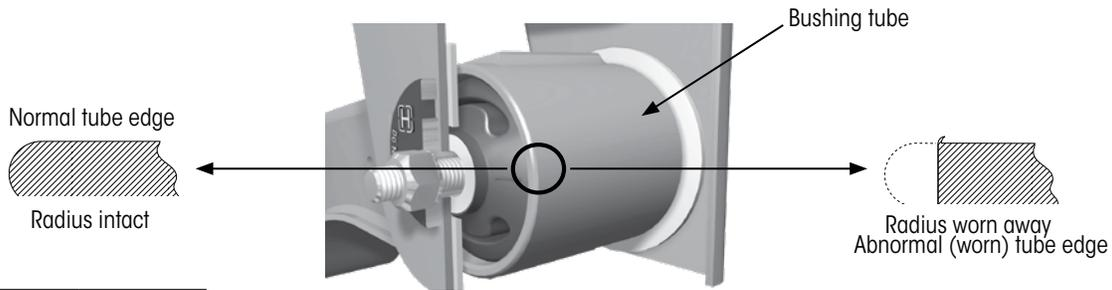

Figure 9: Bushing tube edge wear
- Inspect** bushing tube condition. Some wear (polished metal) on the edge of the bushing tube is considered normal (Figure 9 on page 8) due to the pivoting motion inherent with this connection. Missing metal where the bushing tube's radius edge has been worn away is considered abnormal. If this type of wear is present, determine how much wear has occurred according to specifications in Table 2.
Some wear (polished metal) on the edge of the bushing tube is considered normal (Figure 9) due to the pivoting motion inherent with this connection. Missing metal where the bushing tube's radius edge has been worn away is considered abnormal. If this type of wear is present, refer to Table 2 on page 7.